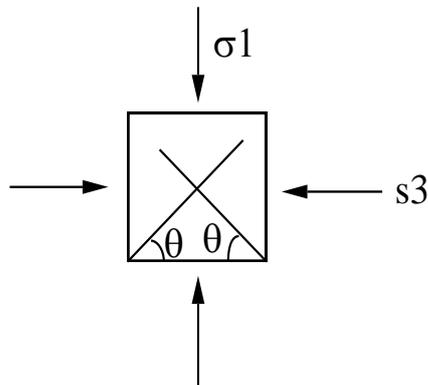

Figure 1
- b. Based on Mohr circle constructions, determine the failure surface orientations, by appointing appropriate value for  $\phi$  at an element taken from the surface of the sample (Figure 1).